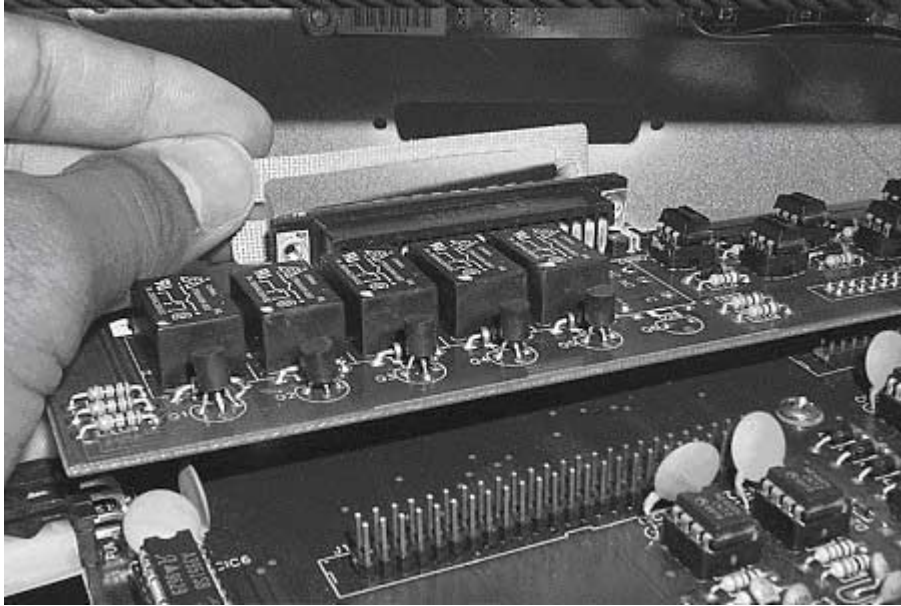

Figure 1-17. View of EMI gasket attaching to the Daughter board.
13. Put the EMI gasket on before inserting the Daughter board through the back panel. See Figure 1-17.